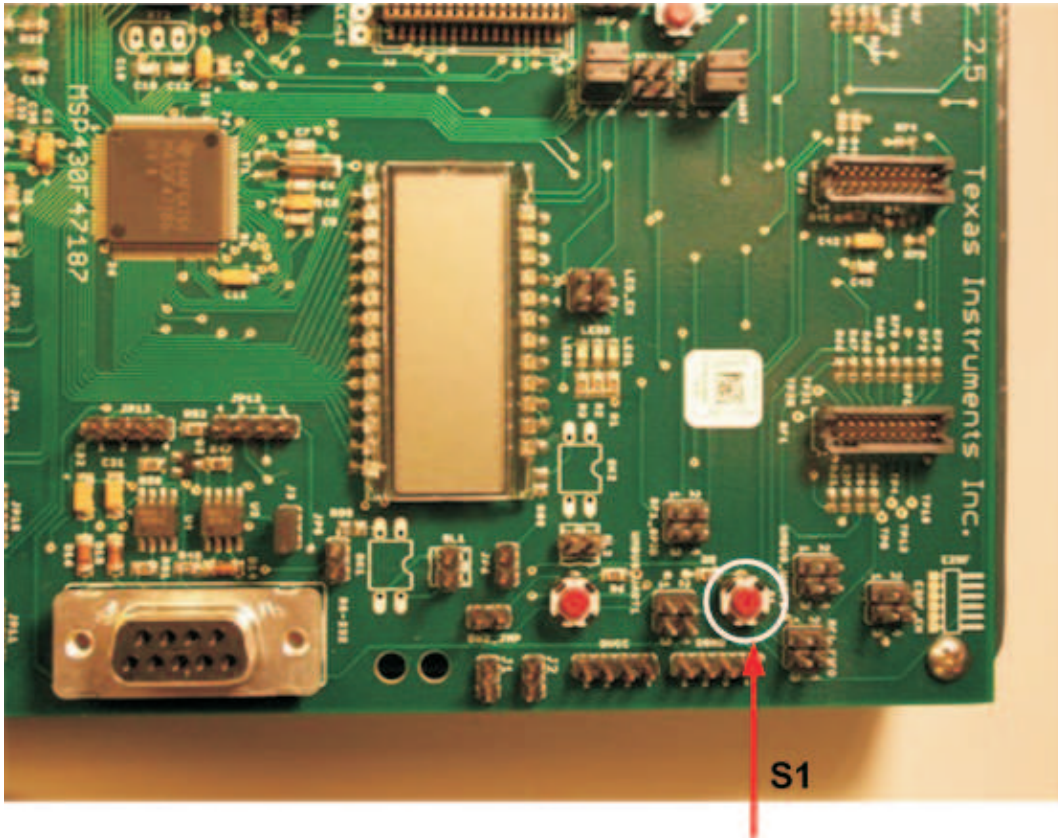
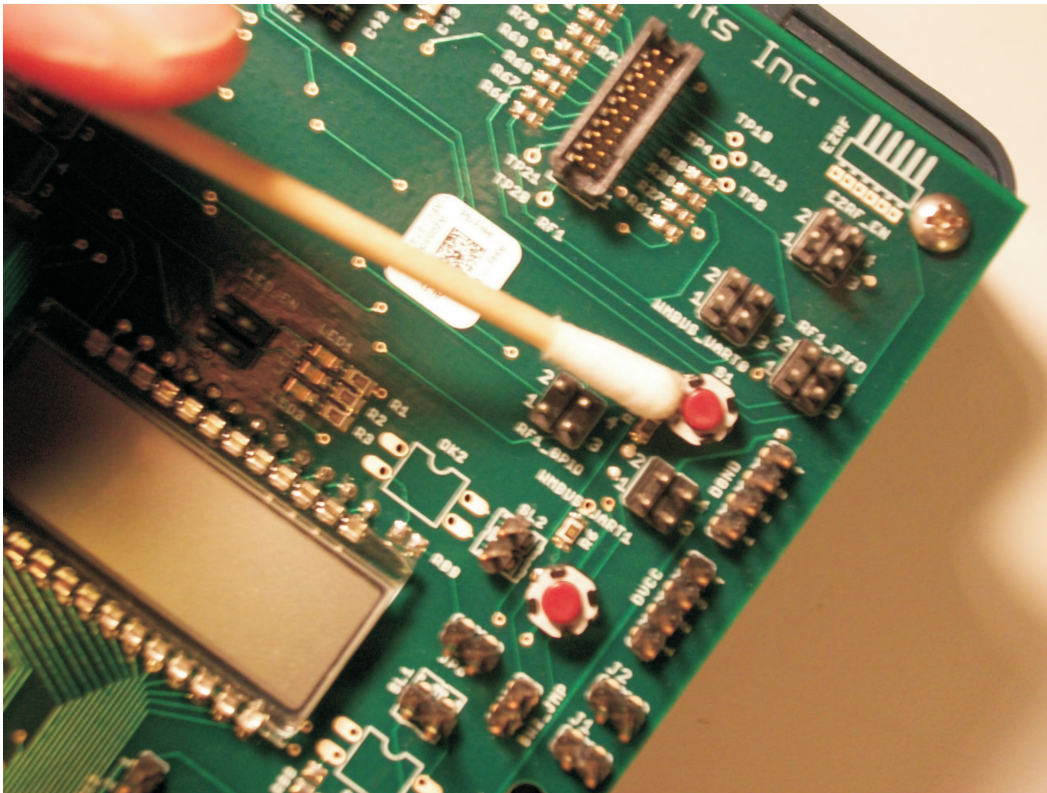

Figure 15. Switch Position S1 on the Top Right Corner of the SMB
Figure 16. PLC Data Transmission Initiation
4. Ensure that the receive modem is connected and the GUI opened, for the PLC portion of the demo. It is assumed that the correct COM port has been selected and is ready to accept data. On the SMB, press switch S1 to immediately start to transmit data to the PLC modem for transmission on the mains. Ensure that a non-metallic object is used to press the switch as shown in Figure 16 and that S1 pressed only after the PC is completely set up and communication of the receive modem is confirmed to be working.
This data immediately appears on the PC GUI with an associated time stamp. The location and operation of the switch on the SMB is shown in Figure 15 and Figure 16.